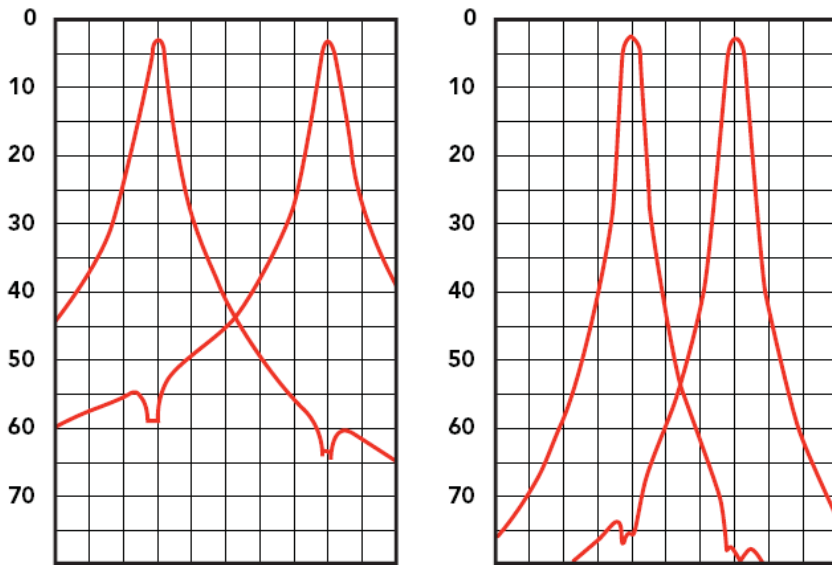

Figure 1 – Typical Band-Pass Duplexer Response
- i. It is recommended that a band-pass duplexer be used that meets the minimum requirements for transmitter and receiver band pass filtering. See figure 1.